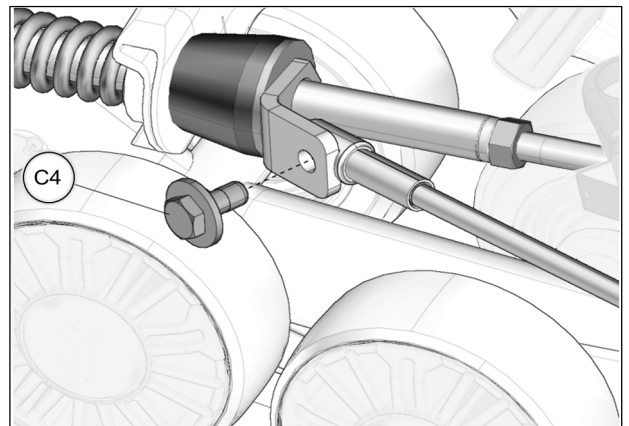

Fig. 27
17. Reverse steering wheel a little to be able to bolt support plate and cable together. Tighten provided bolt (C4) to 35 N•m [24 lb•ft]. See Fig. 27. Repeat steps on right side.